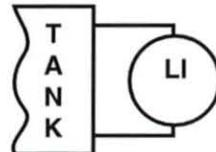

Figure 42. Level Sensing Element Symbol
6. Determine which type of level sensing element symbol is shown in figure 42.